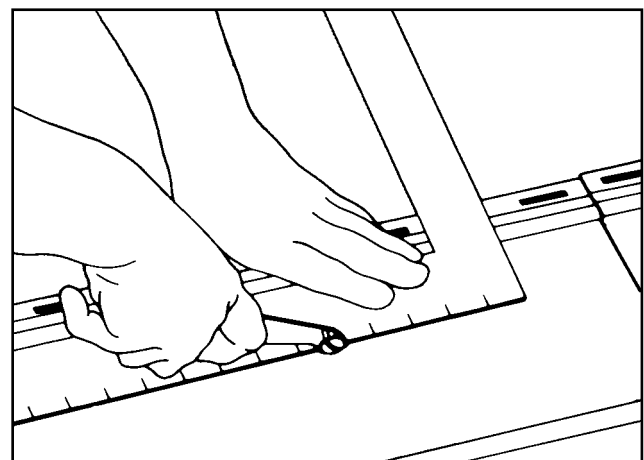

Fig 2.5
3. Using a **utility knife or scoring tool** (Figs. 2.5), score the vinyl from the face side with medium pressure. Snap it in two by bending the piece back-and-forth until it breaks. It is not necessary to cut all the way through the vinyl with a knife. This method should only be used when cutting the panel parallel to the butt edge and nailing slots.